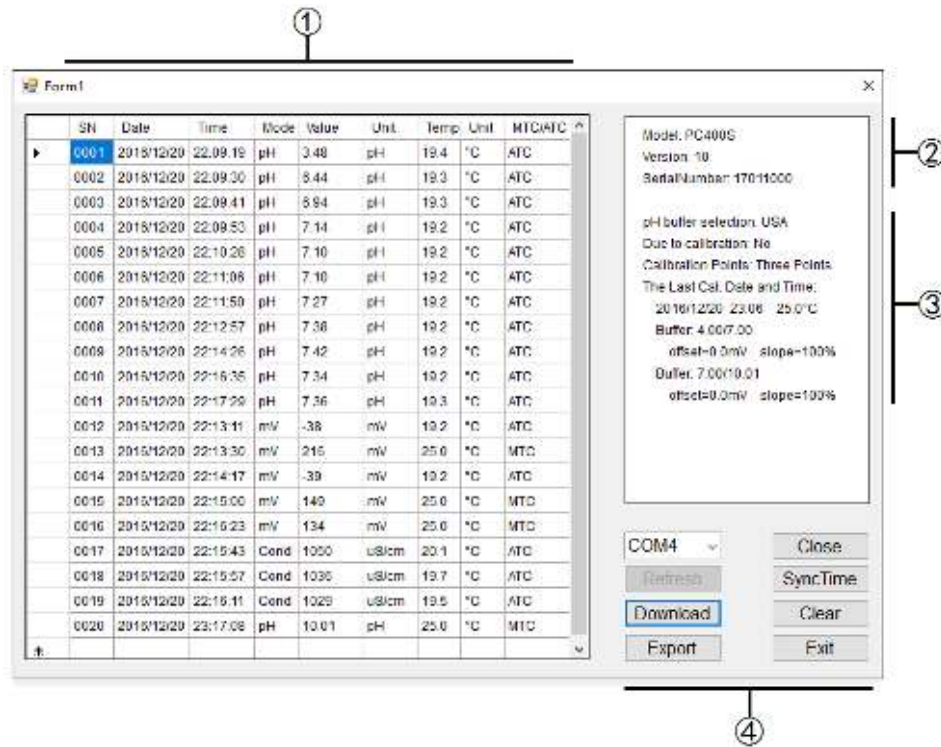

Figure- 15
① — Stored data
- (b) Press **M+RM** after the meter is connected to the computer, or set up auto timing storage function. In this case, all the measuring data will be uploaded to the software, and will not be stored in the meter. See figure-15.
② — Model and Numberings
③ — Calibration information
④ — COM Port #and other buttons
COM Port # is the number for the software to connect with the computer. Every computer’s COM port is different. In Figure-15, the COM port # is COM4.